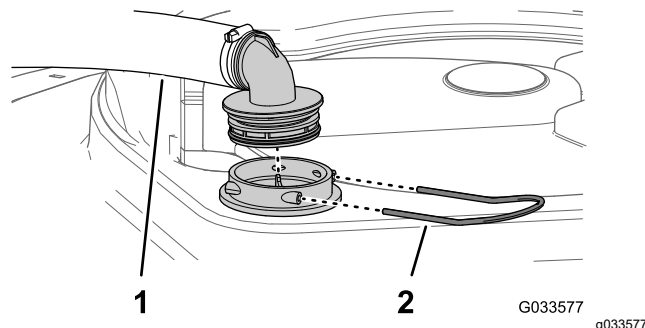

Figure 55
2. At the top of the sprayer tank, remove the retainer that secures the hose fitting attached to the large hose from the filter housing (Figure 55).
3. Remove the hose and hose fitting from the filter housing (Figure 55).